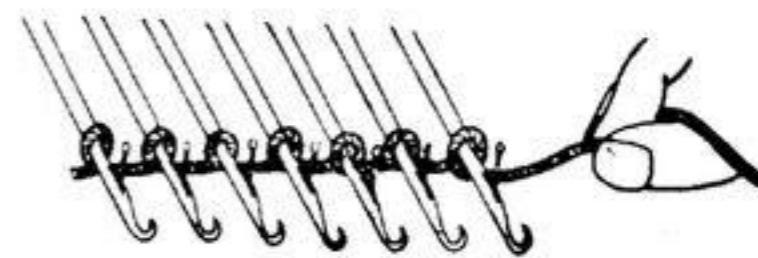

Fig. 32
- i) Form a loop in the end of the wool and hang it on to the extreme end needle on the left (Fig. 32) in Position (E).
- j) Wind the wool in an anti-clockwise direction once around the stem of the second needle from the left and continue to wind the wool around the needles in this manner until there is a loop on every working needle. (Fig. 32)